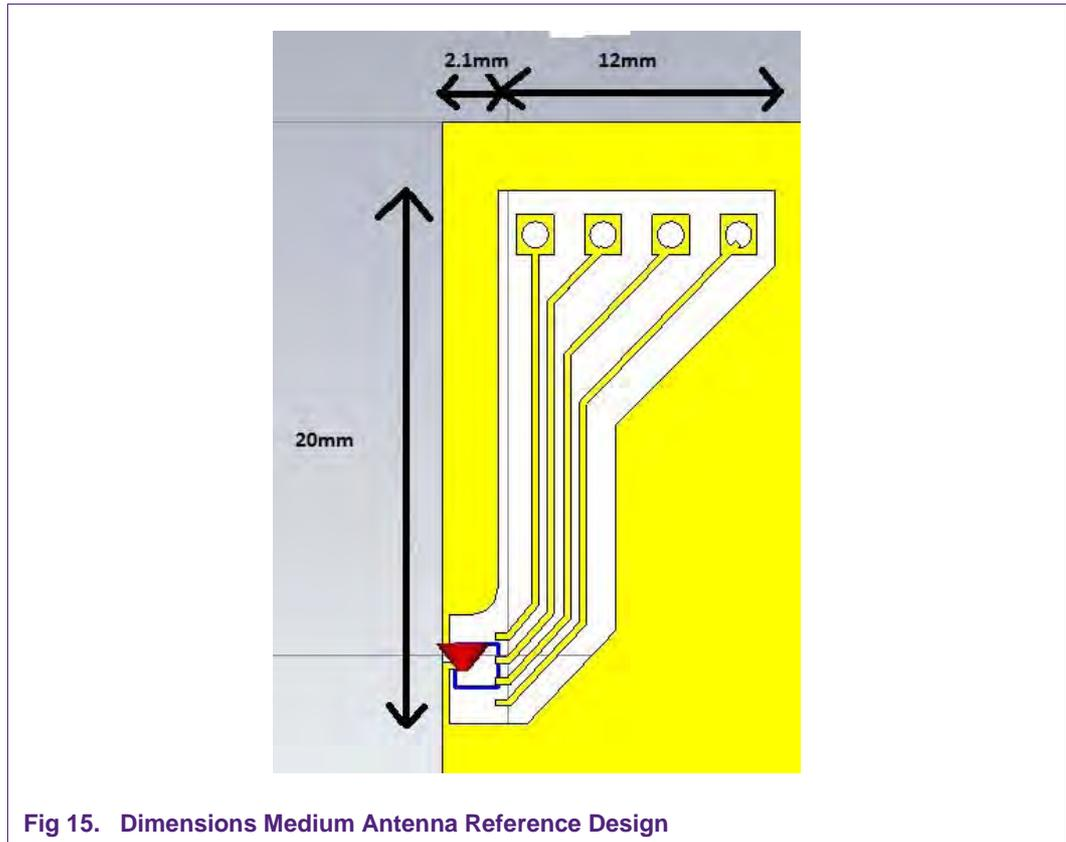

Fig 15. Dimensions Medium Antenna Reference Design
- Dimensions of the UHF antenna: 20mm x 14.1mm (see Fig 15)